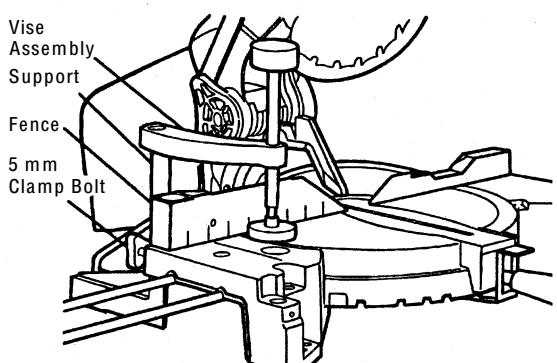

Fig. 19
- (2) The vise assembly can be mounted on either the left side fence or the right side fence, and can be raised or lowered according to the height of the workpiece.
- ① Insert support of vise assembly into the hole located on either the left side fence or the right side fence.
- ② Then tighten 5 mm clamp bolt as shown in Fig. 19.